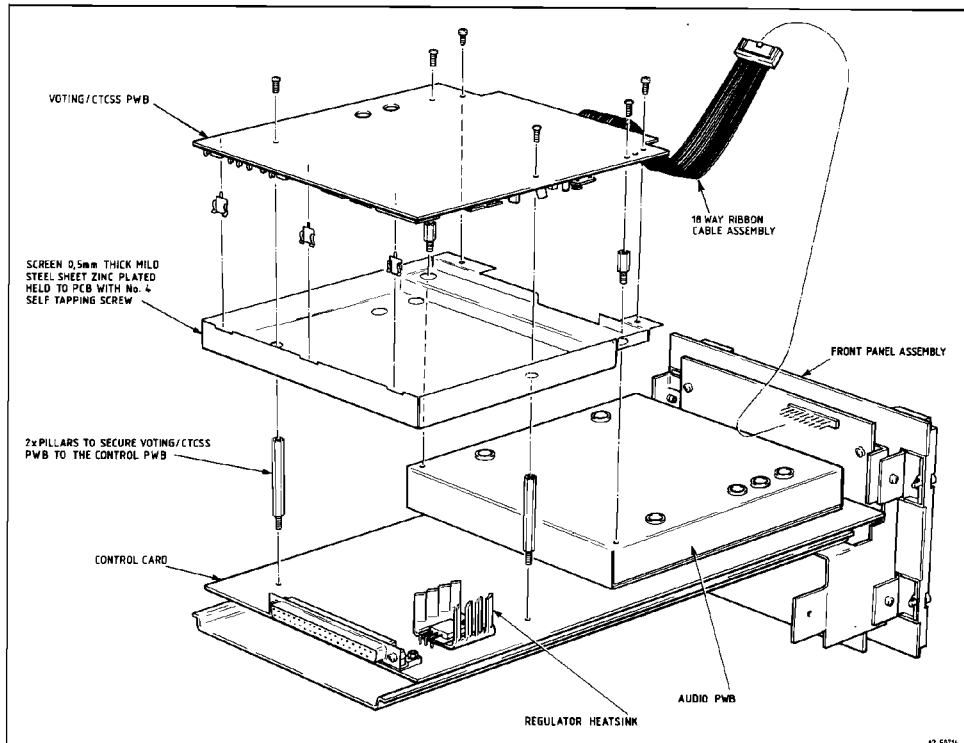

Fig.1 Installation
- Note: (i) Refer to Fig.1 throughout this installation procedure.